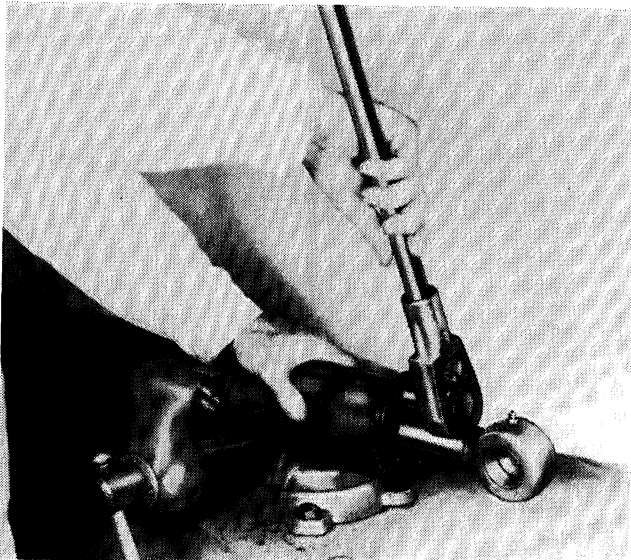

Figure 13. Removing Gland
1. Secure cylinder in a vise using care not to distort the tube. Remove the self-tapping screw from the gland. Use a spanner wrench and unscrew gland, Figure 13.